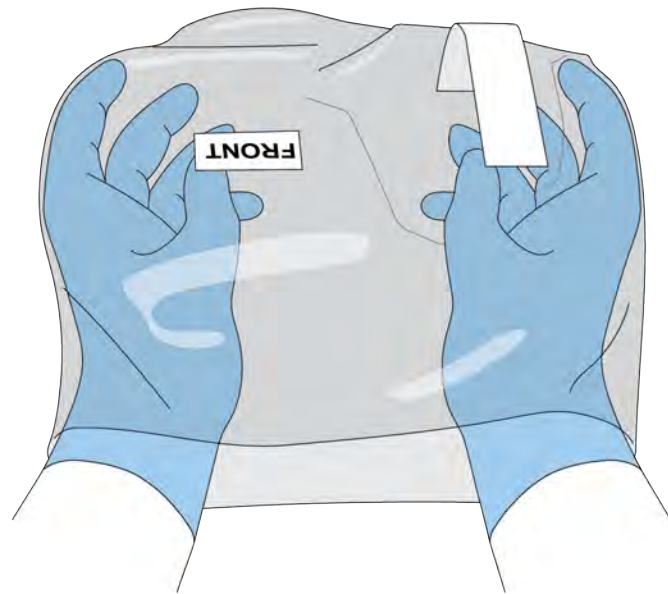

Figure 14. Proper drape orientation.
8. Place both sterile hands inside the Sterile Drape with the text FRONT facing away from the user, and the text NEEDLE facing to the left. (Figure 14)